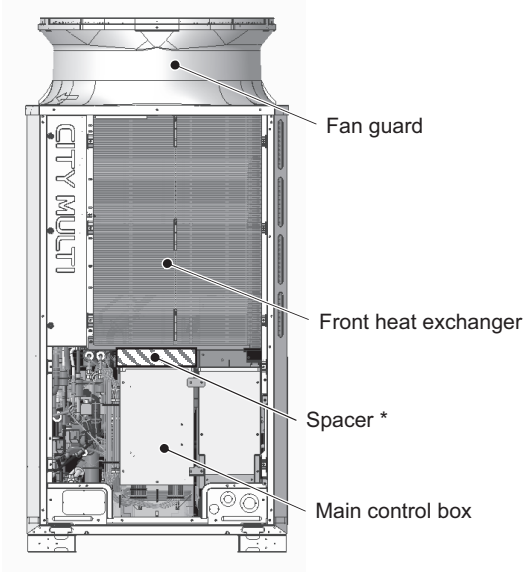
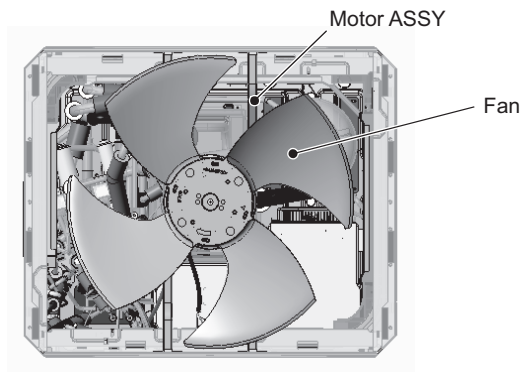

Figure 7
Figure 8
- (8) Remove the fan guard by unscrewing the 6 screws. (See Figure 7.)
- (9) Insert a spacer between the main control box and the heat exchanger.
- (10) Remove the motor ASSY by unscrewing the 8 screws, using caution not to damage the motor wiring or the fan. (See Figure 8.)